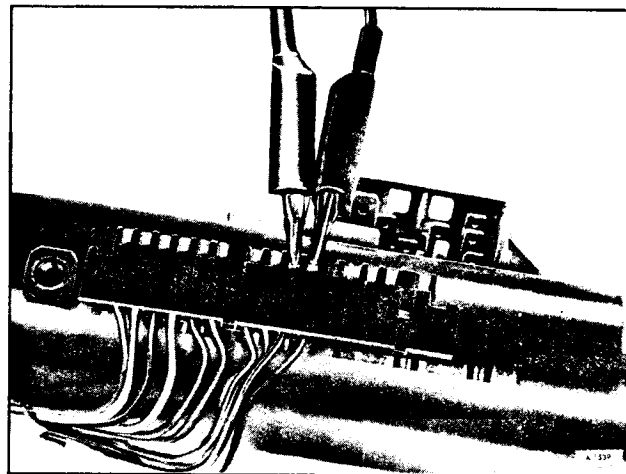

Figure 57—Checking Column Buzzer Circuit Continuity
**NOTE 1:** If the buzzer fault has not yet been detected, connect a continuity meter (light) to the male "E" and "F" connector contacts (figure 57). Insert the key the full depth into the lock cylinder.
**NOTE5:** This condition indicates the lock cylinder or buzzer switch is at fault. To verify, check for continuity at the "E" "F" male connector contacts with the key removed from the cylinder (figure 57). If continuity exists, the fault is in the column.